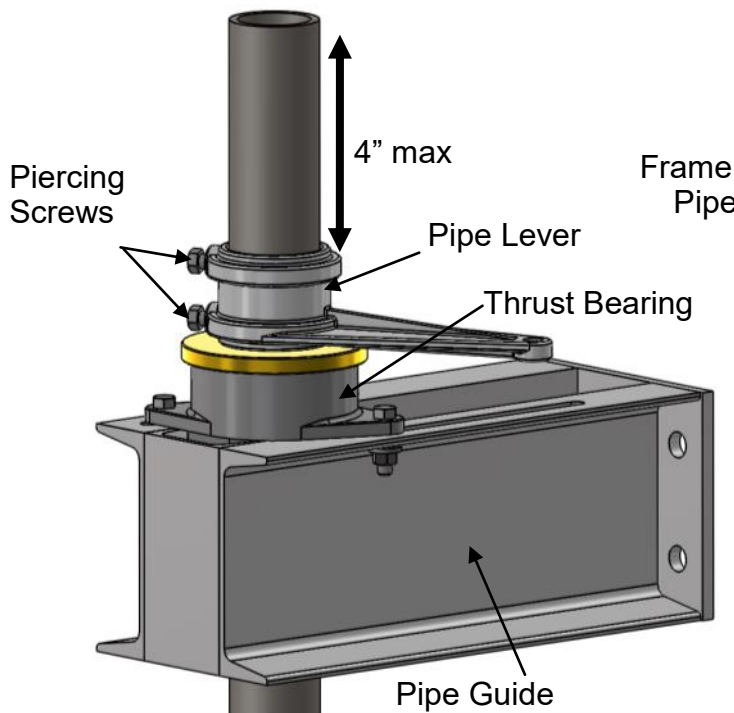

Figure 6 — Thrust bearing, top
- 7. Loosely attach the thrust bearing to the top frame and the frame mounted pipe guides to the middle and bottom frames. See Figures 6 and 7.
- 8. Hoist the top piece of the vertical operating pipe up through the pipe guides, the pipe levers and the thrust bearing on the top phase. Leave a maximum of about 4 inches of pipe above the top of the pipe lever on the top phase. See Figure 6.